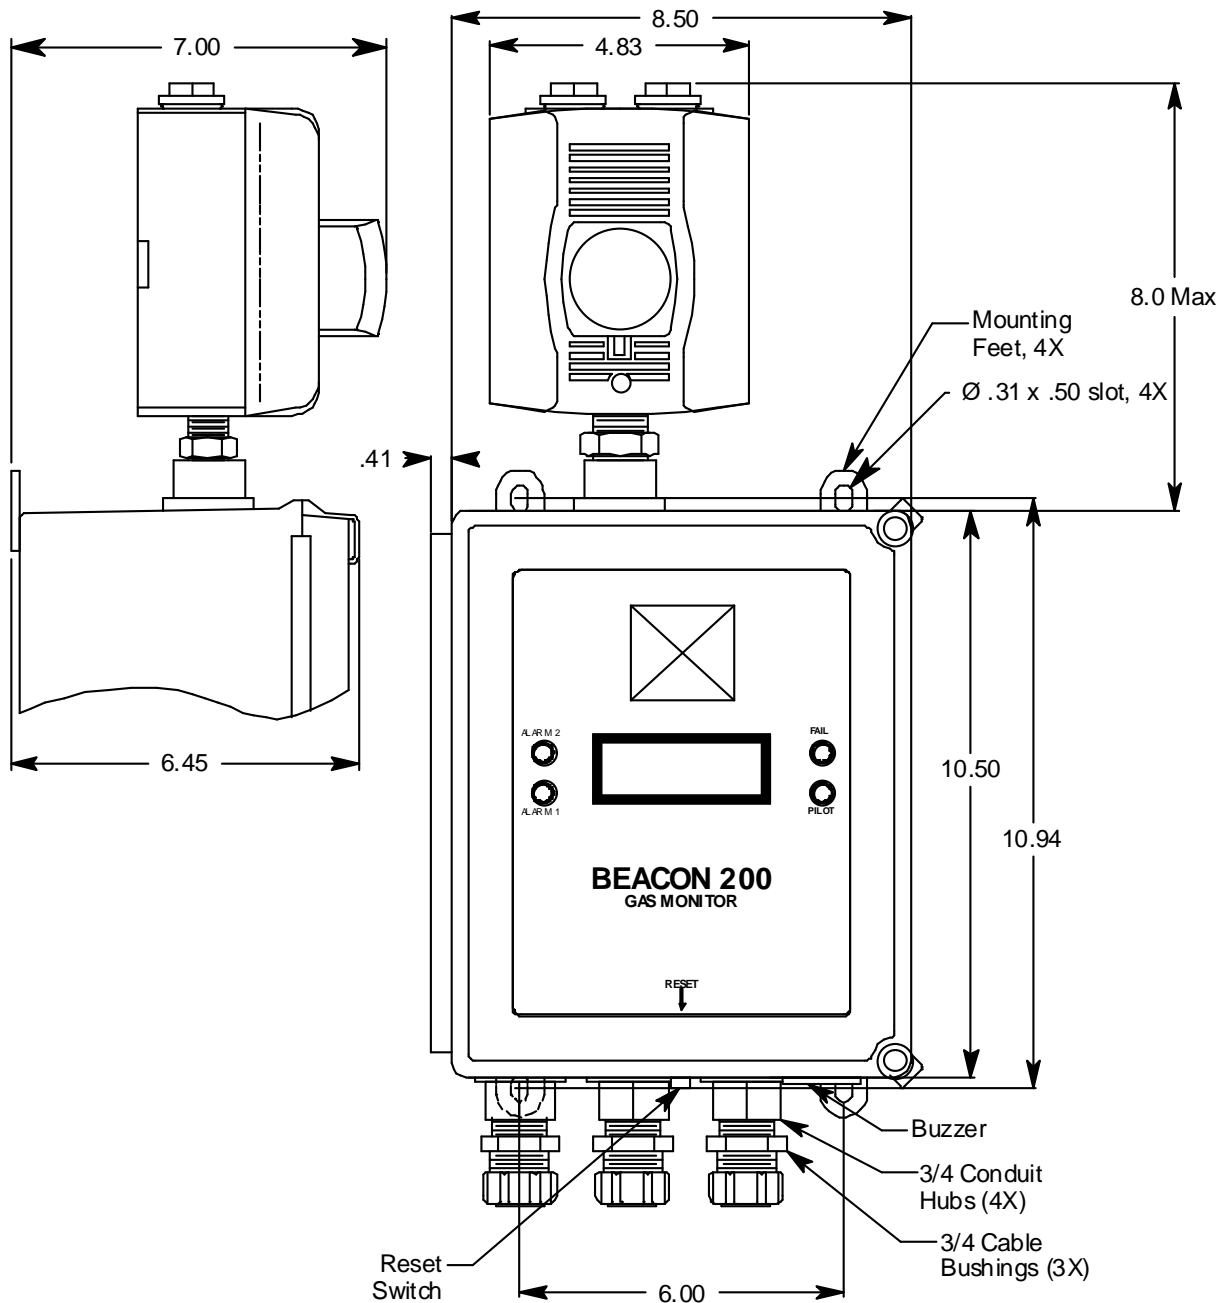

Figure 6. Rig Monitor Outline and Mounting Dimensions
4. The Rig Monitor is shipped with the mounting feet positioned behind the housing. Loosen the screws that secure the feet to the housing, rotate the feet to their mounting position (as shown in Figure 6), then tighten the screws.
5. Insert 1/4 in. or 5/16 in. screws through the slots in the mounting feet at each corner of the housing to secure the housing to the mounting surface (see Figure 6).